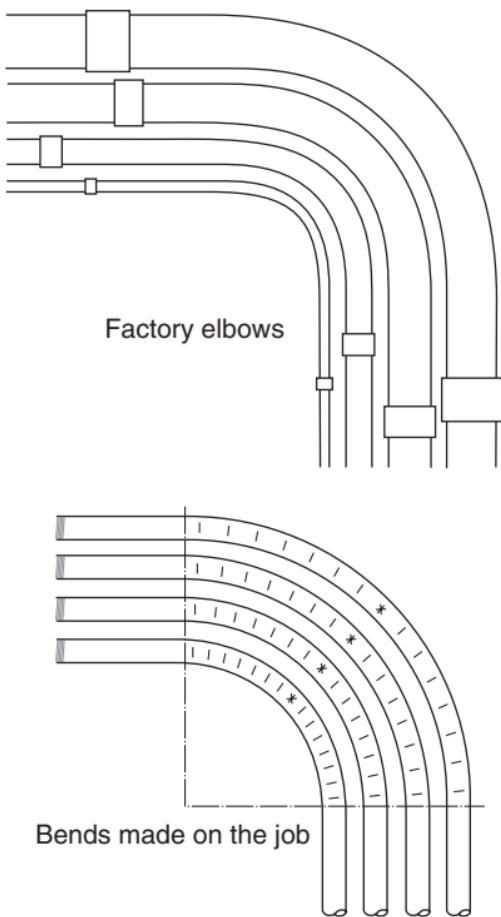

FIGURE 8-17. Bends of factory elbows compared with bends made on the job.
- **Elbow**—an *ell* or a  $90^\circ$  bend that is made when a conduit must turn at a  $90^\circ$  angle. Factory elbows are available already bent. Figure 8-17 shows how factory elbows are used, and how on-the-job bends can be made for a neater look.